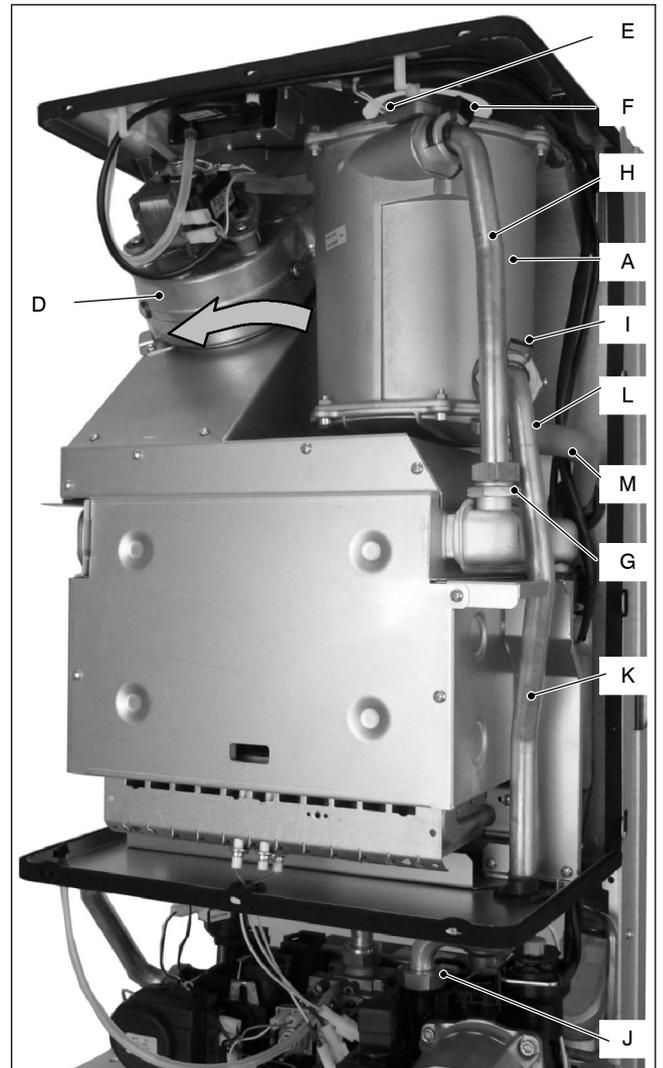

Fig. 2
- 3 Remove the fan *D* in Fig. 2 (see section 17.3).